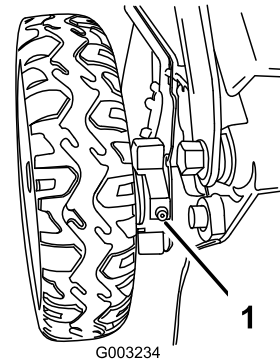

Figure 48
1. Wipe the grease fittings just inside the rear wheels with a clean rag (Figure 48).